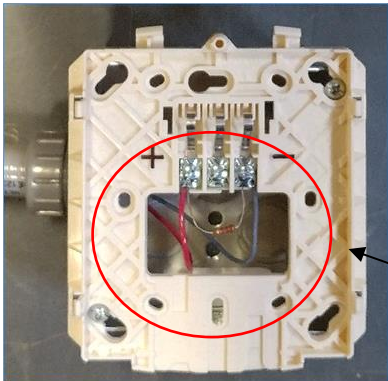

Figure 13.10
- 13 See **Figure 13.10**. Install end of line resistor, retained from Step 5, at last Signal Horn, between positive and negative terminals.